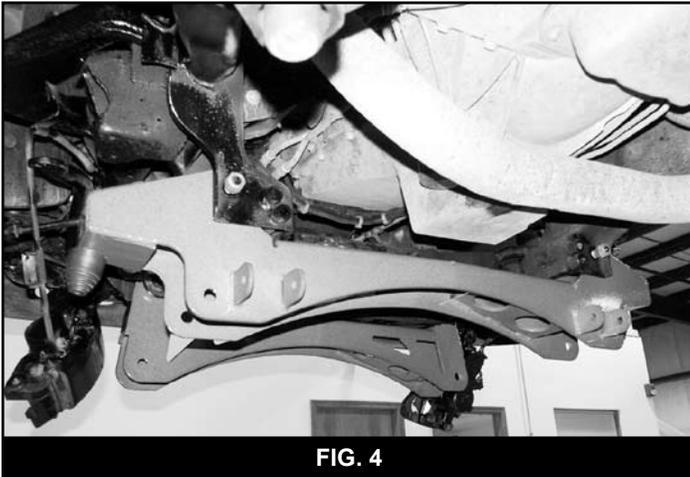

FIG. 4
28. Install the new rear crossmember (01199) in the lower rear OE control arm pockets using the original control arm pivot bolts, nuts and washers (Fig 4). The bolt heads should be to the front of the vehicle. Leave mounting bolts loose.